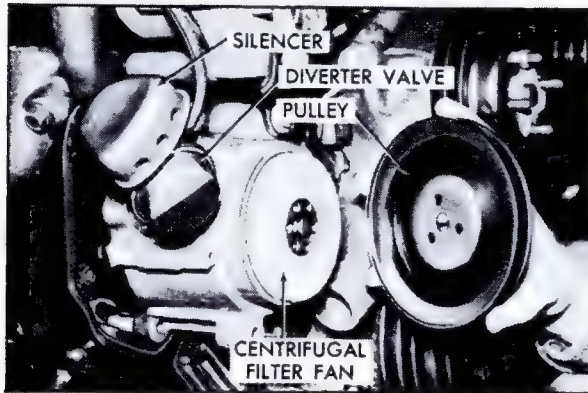

Fig. 6-100 A.I.R. Pump
#### a. Air Pump (Fig. 6-100)
#### e. Diverter Valve (Fig. 6-100)
**106. Silencer (Fig. 6-100)**
**107. Diverter Valve and Silencer Assembly (Fig. 6-100)****a. Removal**
**108. Centrifugal Filter Fan (Fig. 6-100)**
2. Remove three screws and remove pump pulley, Fig. 6-100.